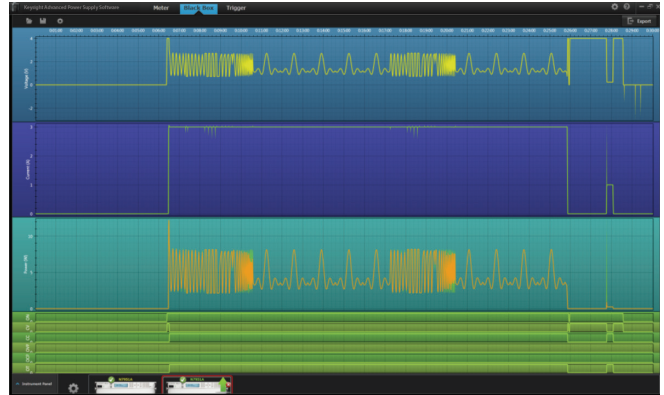

Figure 4. Black box recorder data displayed within the N7906A Power Assistant software
Much like a flight data recorder, the N7908A black box recorder (BBR) runs continually in the background, independent of what the power supply is doing. When the power supply is on, the BBR is recording power events and storing measurements in non-volatile memory. The BBR can be set for either a 24-hour record or a 10-day record period. In the 24-hour mode, measurements are made at a rate of 100 per second, and in the 10-day mode they are made at a rate of 10 per second. The BBR data can be accessed via the free APS power assistant software (see Figure 4 on page 7). The BBR is a user-installable hardware option, and it works in all APS N6900 and N7900 power supplies. You can purchase the N7908A BBR with an APS power supply or buy it later and install it in your existing APS power supply. The BBR hardware board plugs into the bottom of an APS power supply, as shown in Figure 3.
- Retrieve and view data from the optional APS power supply black box recorder (see Figure 4)